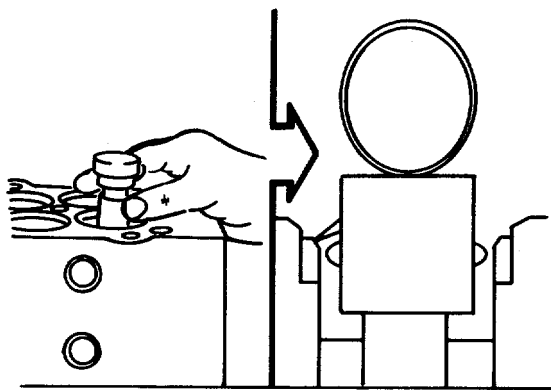

FIGURE 4-14. Valve Seat Concentricity Measurement.
- (d) Use eccentricimeter and an arbor to measure valve seat to valve guide concentricity (FIG. 4-14).